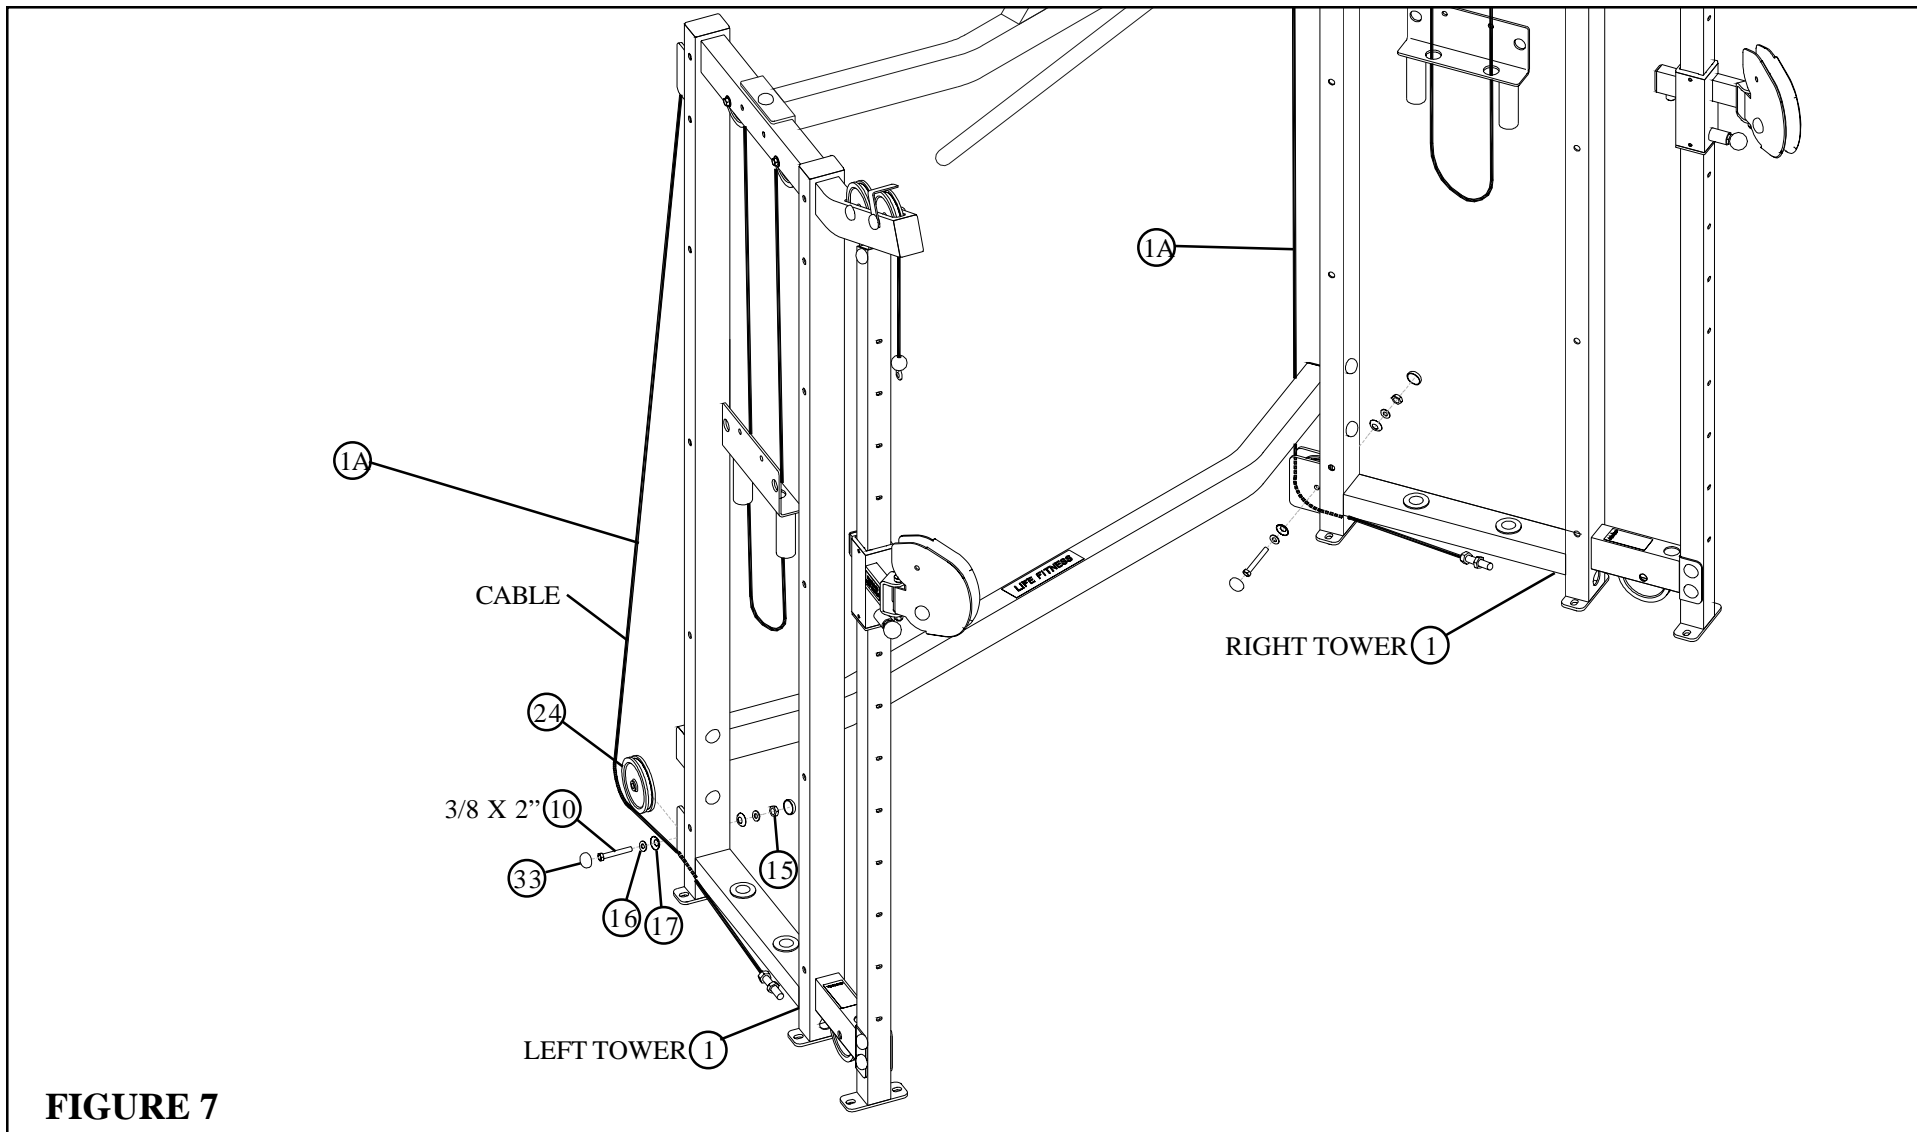

FIGURE 7
- Route the threaded end of CABLE through the LEFT TOWER (1) as shown, then over one 4-1/2" PULLEY (24) and **SECURELY** assemble the 4-1/2" PULLEY (24) to the LEFT TOWER (1) using two RH CAPS (33), one 3/8 X 2" BOLT (10), two 3/8" SAE WASHERS (16), two 3/8" RH WASHERS (17) and one 3/8" LOW HEIGHT LOCK NUT (15) as shown in FIGURE 7.
- Repeat this step to assemble one 4-1/2" PULLEY (24) to the RIGHT TOWER (1).